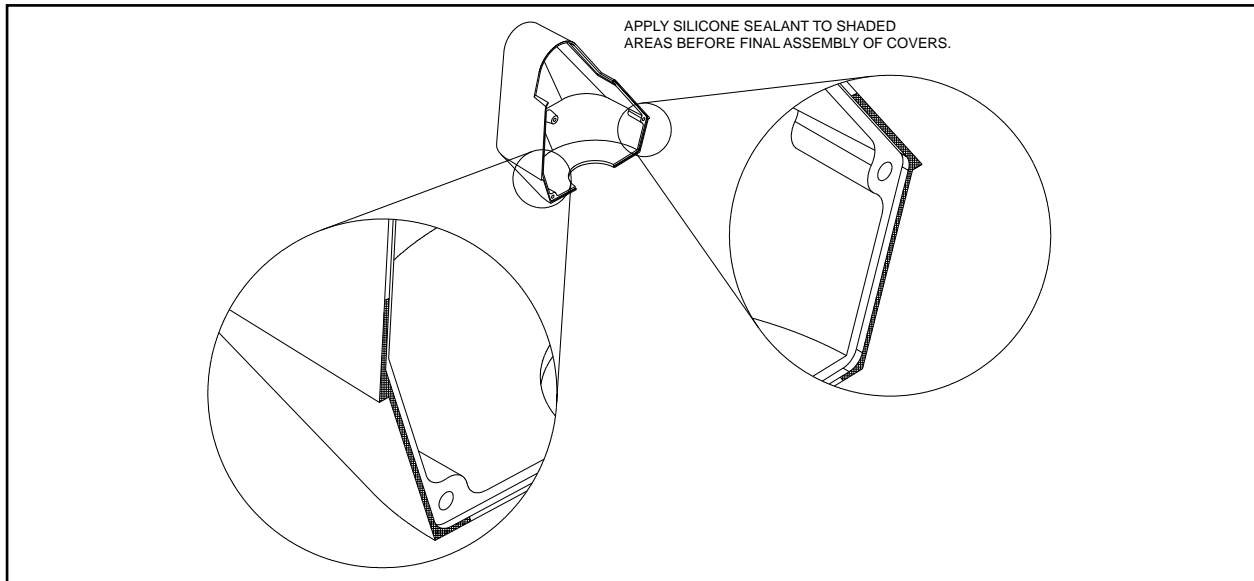
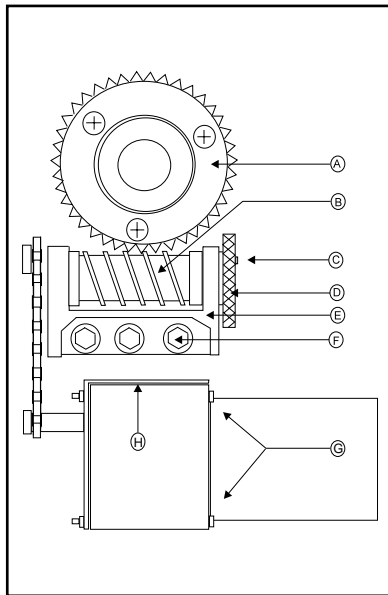

Figure 9. Silicone Application Locations for Inverted Unit
Figure 13. Pan/Tilt Adjustments
1. If the pan/tilt is installed in an inverted position, refer to Figure 9 and apply RTV silicone (such as Bostik #9732 or equivalent) to the shaded areas of the covers.
3. Refer to Figure 13. It shows the parts locations of the tilt assembly. Look for similar orientations of parts when adjusting the pan assembly.
- (7) Line up the hole in the gear train nut with the nearest hole in the gear train bracket (E).
- (8) Replace the screw.
- b. Refer to Figure 13. Adjust chain tension, if needed:
- (1) Locate the pan or tilt motor on the assembly. Loosen the hex screws (G) that hold the motor to its mounting bracket. Depending on which motor assembly you are adjusting, there will be either three (pan) or four (tilt). (Only two screws are shown in Figure 13.)
- (2) Using a screwdriver, pry the motor down at H to tighten for the correct chain tension. (You should not be able to freely move the motor with your finger, nor should it be so tight that it will not move at all as this usually leads to binding.)
- (3) Tighten the hex screws.
6. Replace the covers. (Refer to step 2 under Section 3.5, FINAL INSTALLATION.) When you reinstall the covers, apply new silicone sealant as shown in Figures 9 and 12.